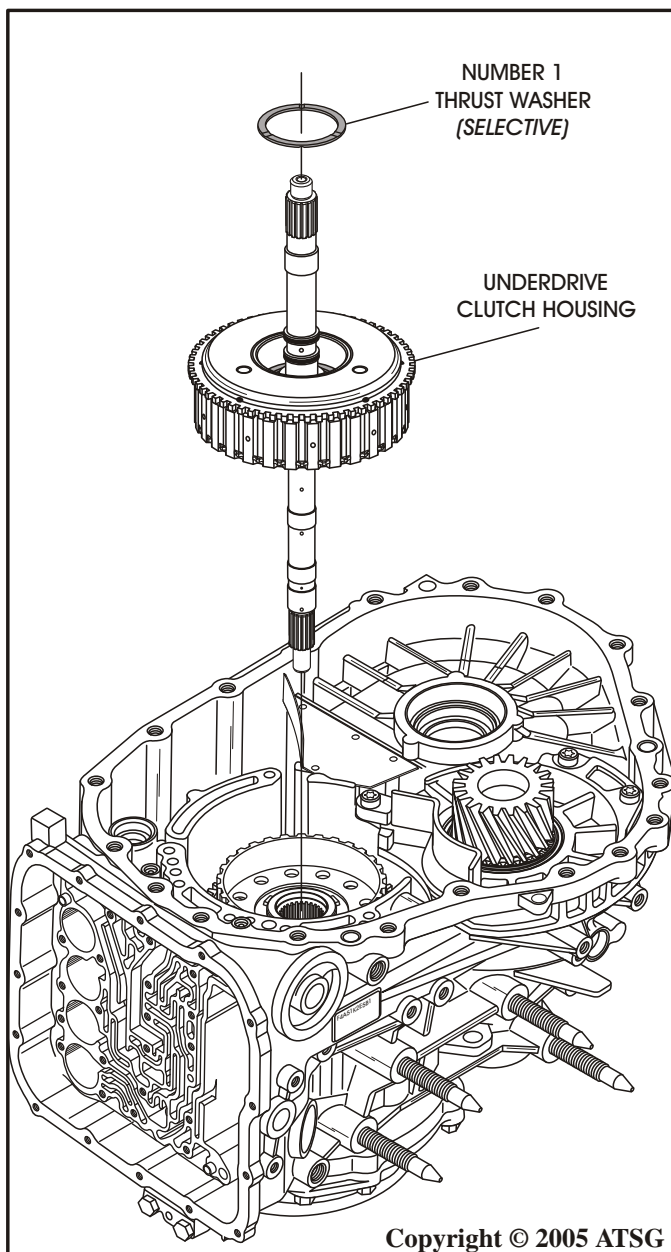

Figure 41
29. Remove the underdrive clutch housing by lifting straight up, as shown in Figure 41.
30. Remove the number 1 selective thrust washer, as shown in Figure 41.